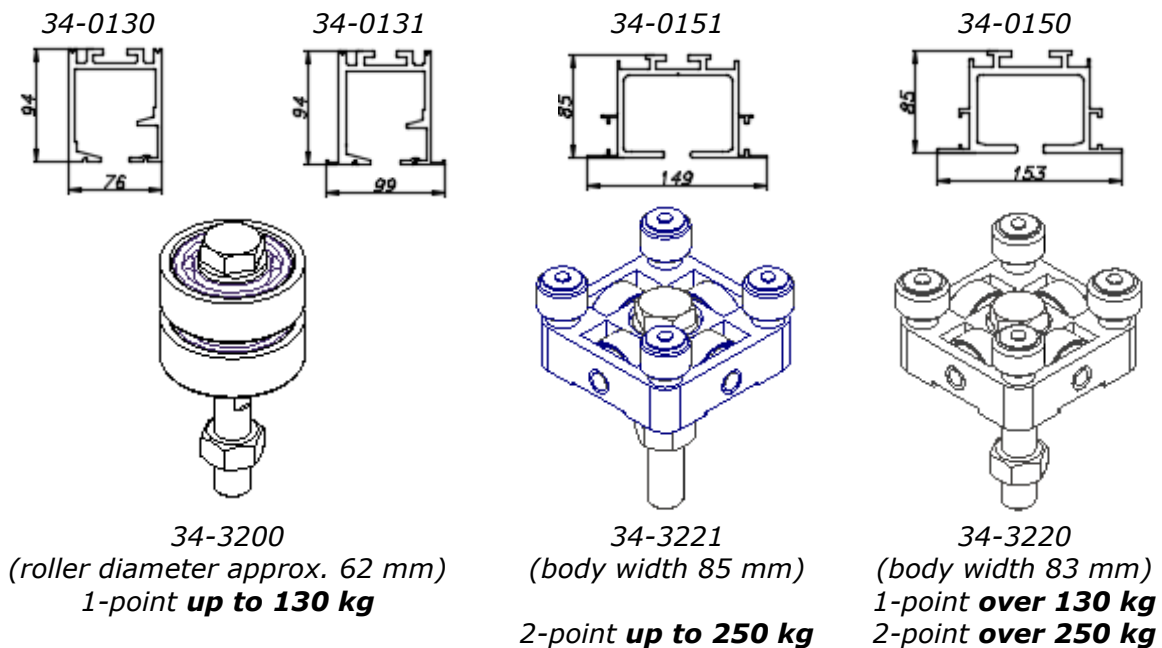

Fig.21. Types of tracks with carriages assigned to them depending on the weight of the panels
- for the 1-point suspension **tracks 34-0130 and 34-0131** and additionally **track 34-0150 (Fig.21)**
Based on the **weight of the panel (the door panel is heavier than the regular panel)** **SELECT the appropriate carriage (the track is automatically assigned) according to the guidelines above (Fig.21)**
- a **straight sheet** connecting **all the tracks** (17 in Fig. 21 and 22), with the difference that: